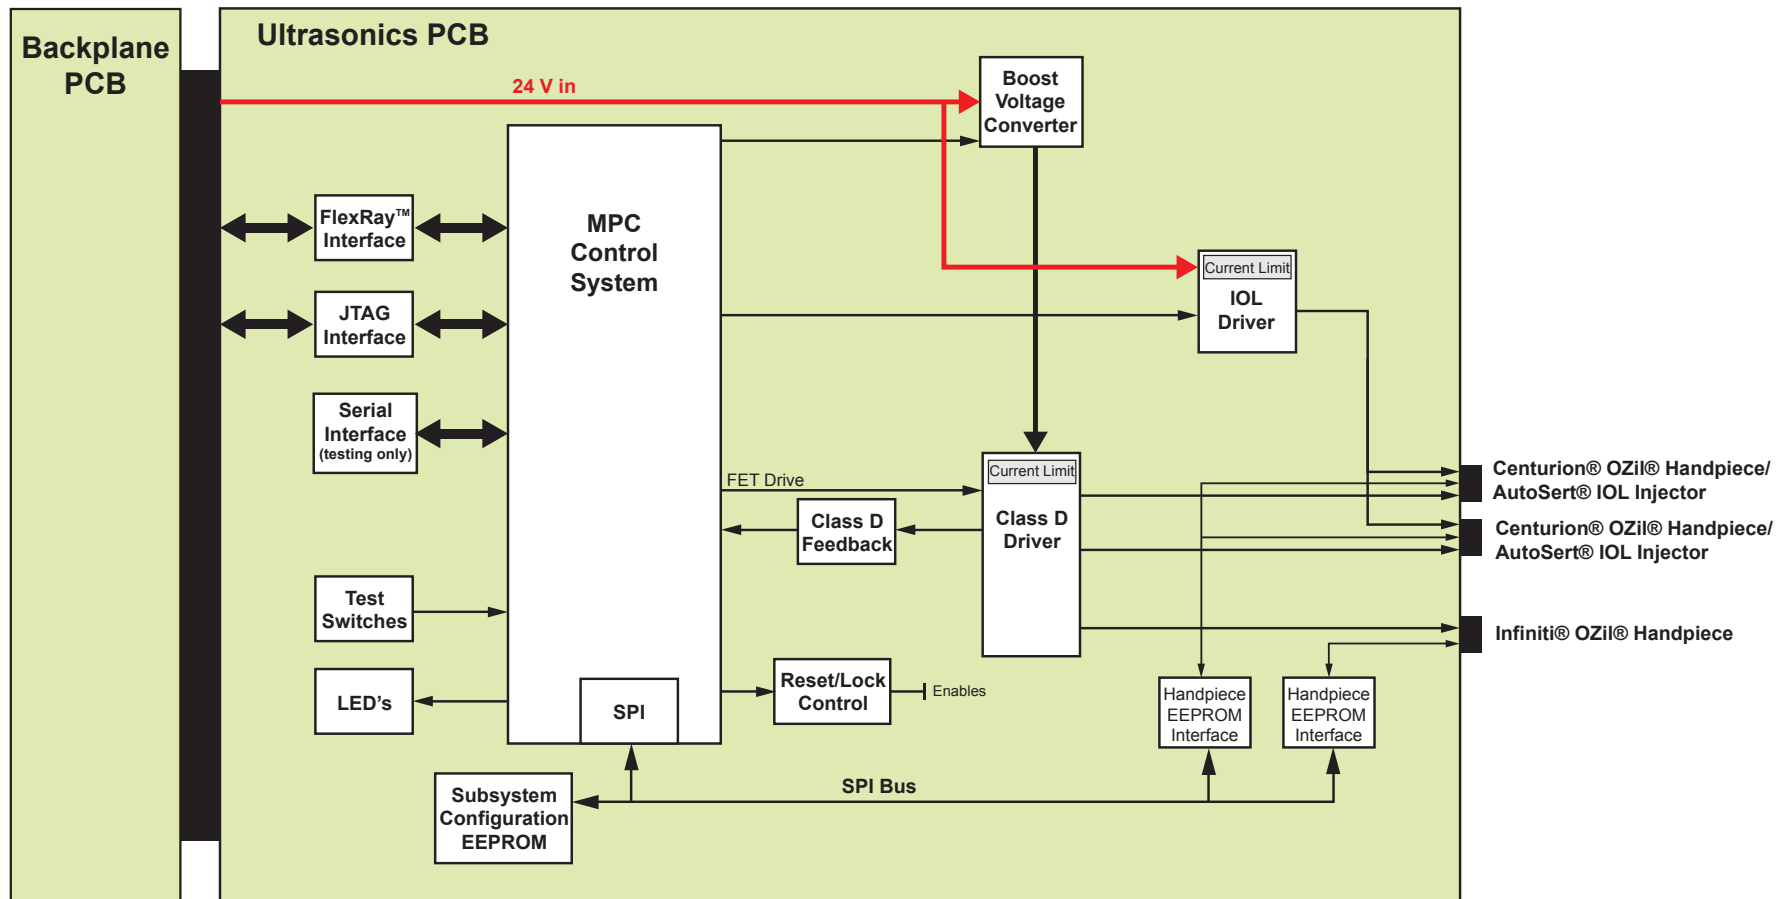

Figure 2-6 Ultrasound PCB Block Diagram
6.3 The Ultrasound PCB block diagram in Figure 2-6 contains the following major circuit blocks: